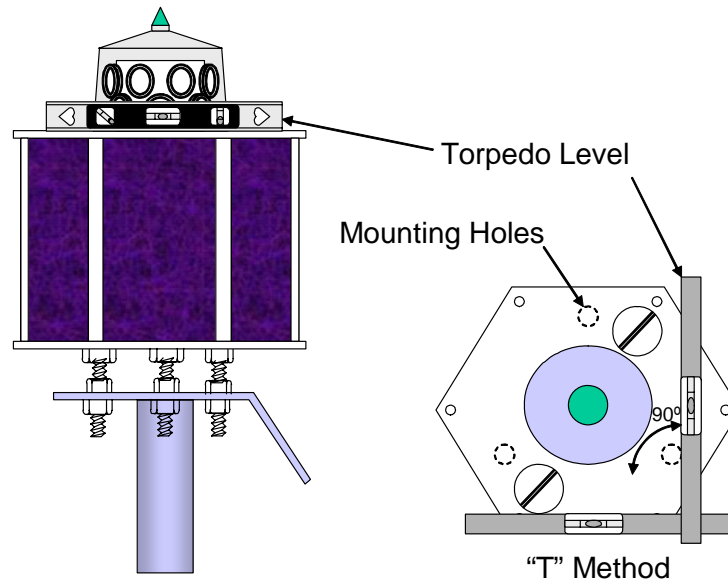

Figure 3-12
- e. Place a torpedo level on top of the lantern in-line with two of the mounting holes. Using the "T" method, level the lantern using one or both of the nuts on top of the platform corresponding to those two mounting holes. Turn the level 90 degrees and level the lantern in that direction by turning the one nut on top of the platform opposite the other two nuts. The lantern should be level in both directions. See Figure 3-12.